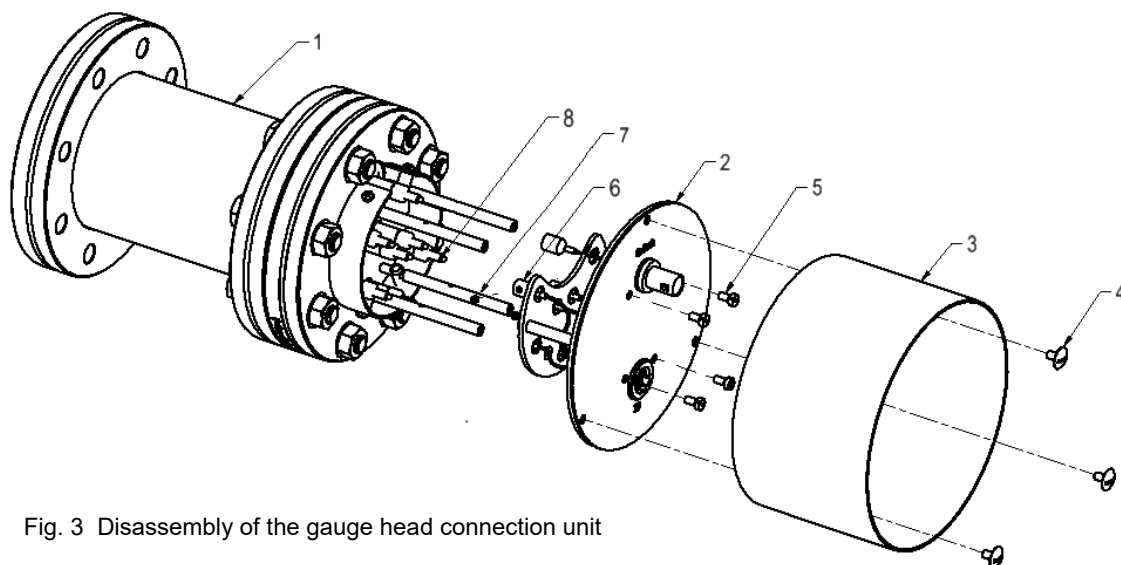

Fig. 3 Disassembly of the gauge head connection unit
- 7 Hex socket set screws M3×3 (8×) (also visible in the following Fig. 3)